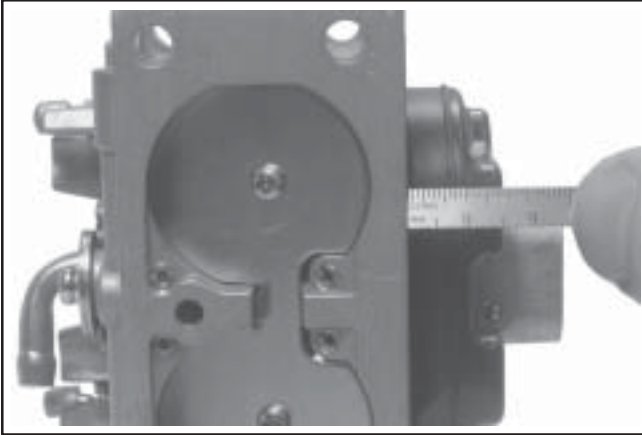

Figure 5-58. Checking Float Height.
15. The correct float height setting is **17 mm (0.669 in.) ± 1.5 mm (0.059 in.)**, measured from the float bottom to the body of the carburetor. See Figure 5-58. Replace the float if the height is different than the specified setting. **Do not** attempt to adjust by bending float tab.